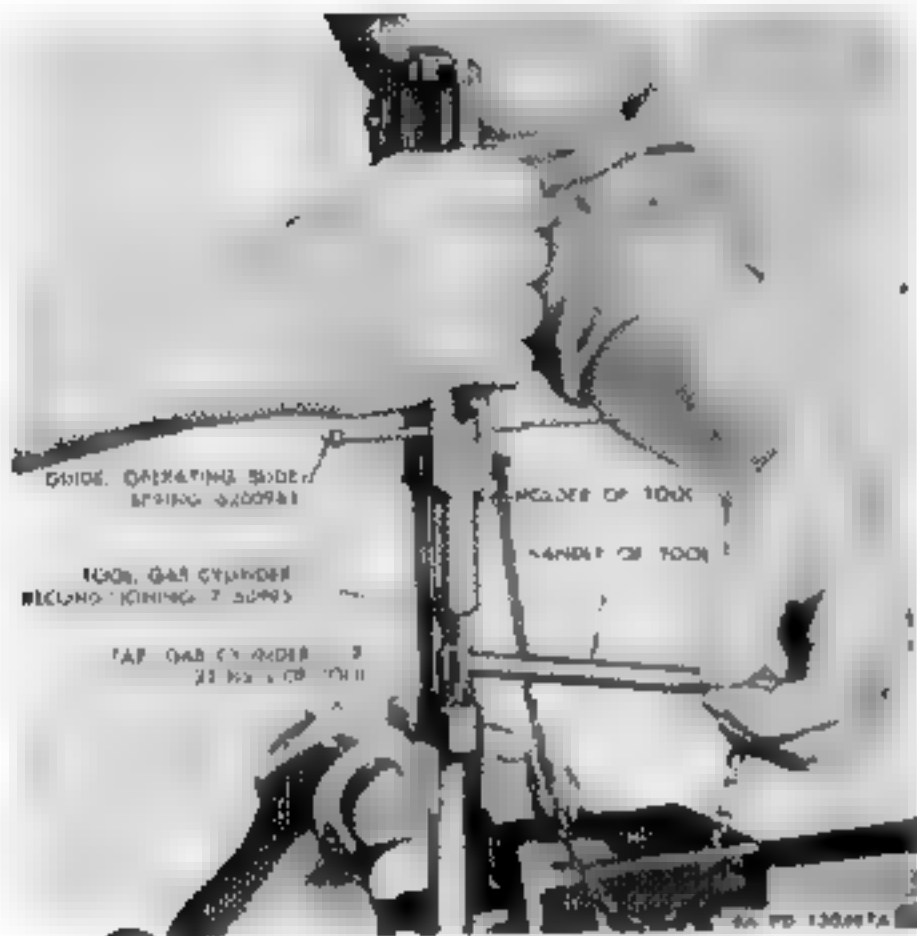

Figure 83. Chasing gas cylinder thread.
Note. When using the head space gage, disengage the bolt from the operating slide. There are two types of head space gages assigned the same stock numbers for same sizes. If the gage is of the design that has a rim, place the rim carefully under the extractor against the face of the bolt (Fig. 83), if the extractor is assembled, thereby avoiding snapping the extractor over the gage. When the other type (shouldered), is used, it is inserted into the chamber first and the bolt closed on it. In closing the bolt to check the depth of the chamber, exert only the lightest finger pressure and make sure that the hammer does not exert pressure against the bolt.
*a. Chasing Gas Cylinder Thread.* Chase threads of the gas cylinder, using gas cylinder tap member of tool 7160995 (Fig. 83). Dip tap in a cutting oil and start tap carefully in gas cylinder. Cut threads a little at a time, using a forward and backward movement. Exercise care to stop tap as soon as it
*b. Gas Cylinder Piston and Nut.* Insert gas cylinder piston into cylinder and screw cylinder piston nut into the threads using gas cylinder reconditioning tool 7160995 (Fig. 83) (with component wrench). Make certain to stake the cylinder lightly into the nut, in one of the three places provided, or the nut may work loose during the firing of the carbine. After the piston and nut are assembled in the gas cylinder, check to assure that there is no binding (page 82).